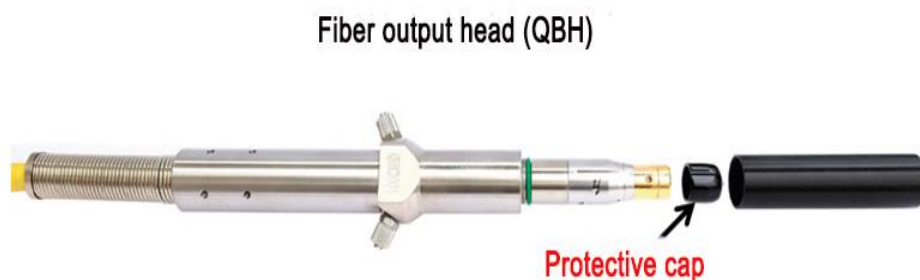

Figure 3.3
2、 Remove fiber dustproof cover and check whether the protective cap for fiber crystal head is locked. Clean the fiber head with dust-free cotton swabs and absolute ethanol until it's dust-free. As shown in Figure 3.3.